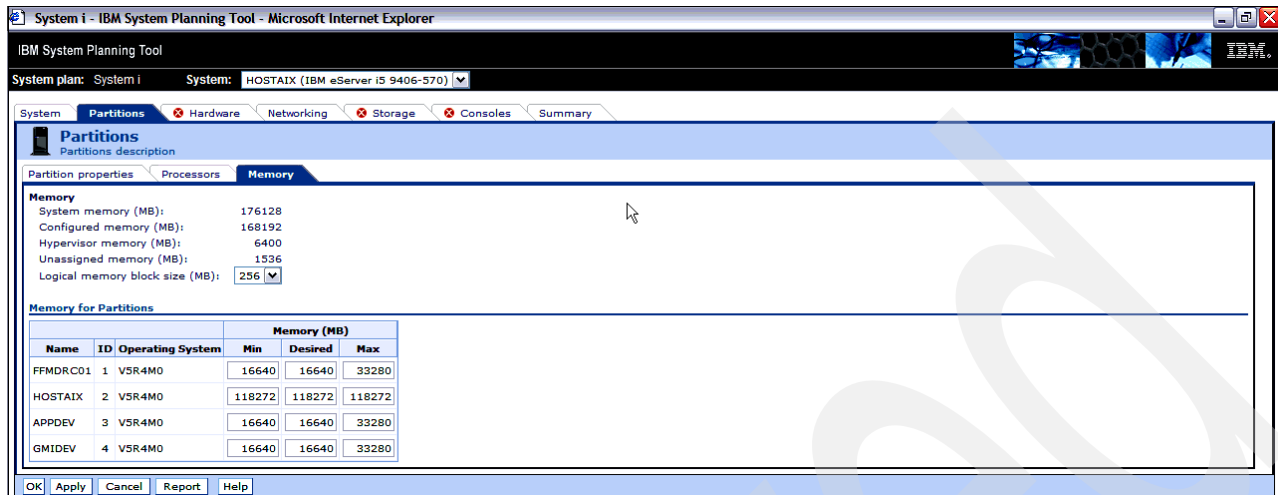

Figure 5-16 WLE generated memory allocation
12. Click the **Memory** tab for all of the partitions. Always verify that the memory allocations are what you want. In Figure 5-16 you see the memory allocations by WLE in our example.